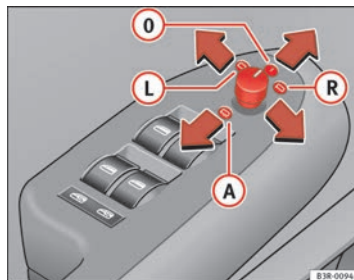

Fig. 105 Detailed view of the armrest: Adjuster knob
- Turn the adjuster knob to position ⇒ page 132, fig. 105 **L** (left exterior mirror) or position **R** (right exterior mirror).
When reverse gear is engaged, the mirror surface tilts slightly downwards, provided the mirror control is switched to the exterior mirror on the passenger side (knob in position **R** ⇒ page 132, fig. 105). This provides a better view of the kerb when parking.